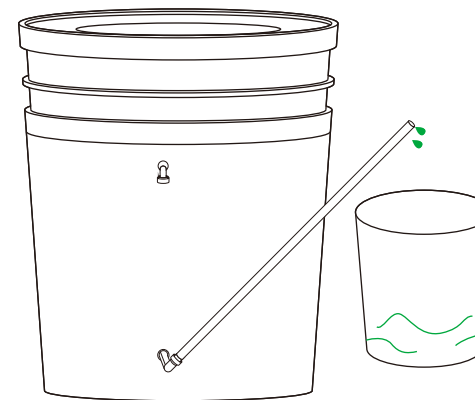

Figure 3
3. Slowly rotate the water tube downwards to the proper position to start automatic drainage, as shown in Figure 3.